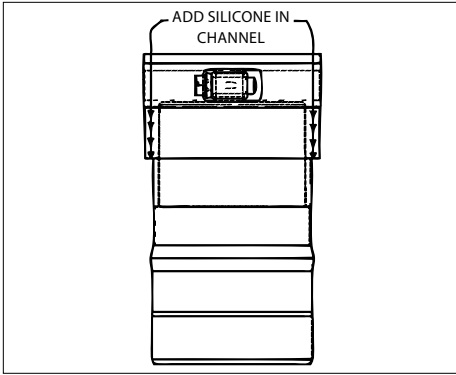

Figure 12
4. Apply RTV 500 silicone in the channel of the Male Flex Adapter adapter (between the inner and outer tubes) as seen in **Figure 12**.